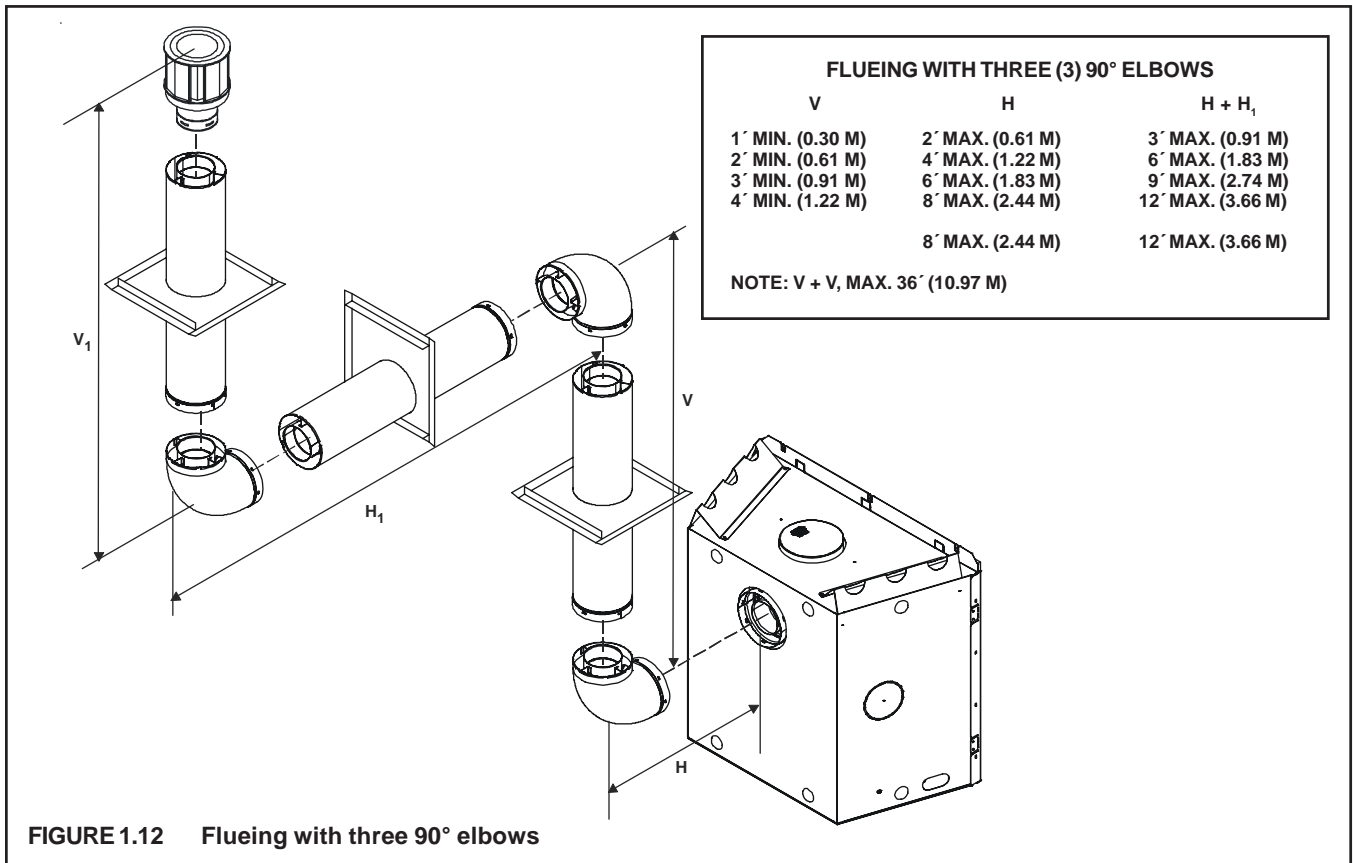

FIGURE 1.12 Flueing with three 90° elbows
Figures 1.12 through 1.14 show examples of possible installations using three (3) 90-degree elbows. Dimensions V are listed **MINIMUM** first vertical dimensions and dimensions H are listed as beginning **MAXIMUM** horizontal dimensions. Dimensions $H+H_1$ and $H+H_1+H_2$ are listed as **TOTAL MAXIMUM** horizontal dimensions. Dimensions $V+V_1$ are listed as **TOTAL MAXIMUM** vertical dimensions.